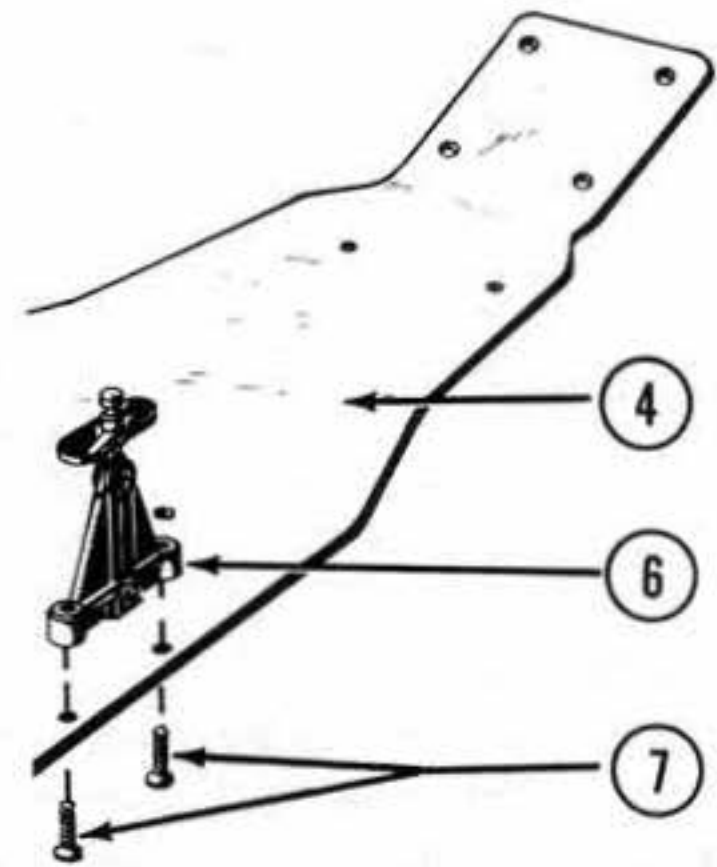

FIG. 1
2. Secure side bulkheads (6) to sides of chassis using four 4-40 X 3/8" flathead screws (7). Fig.1